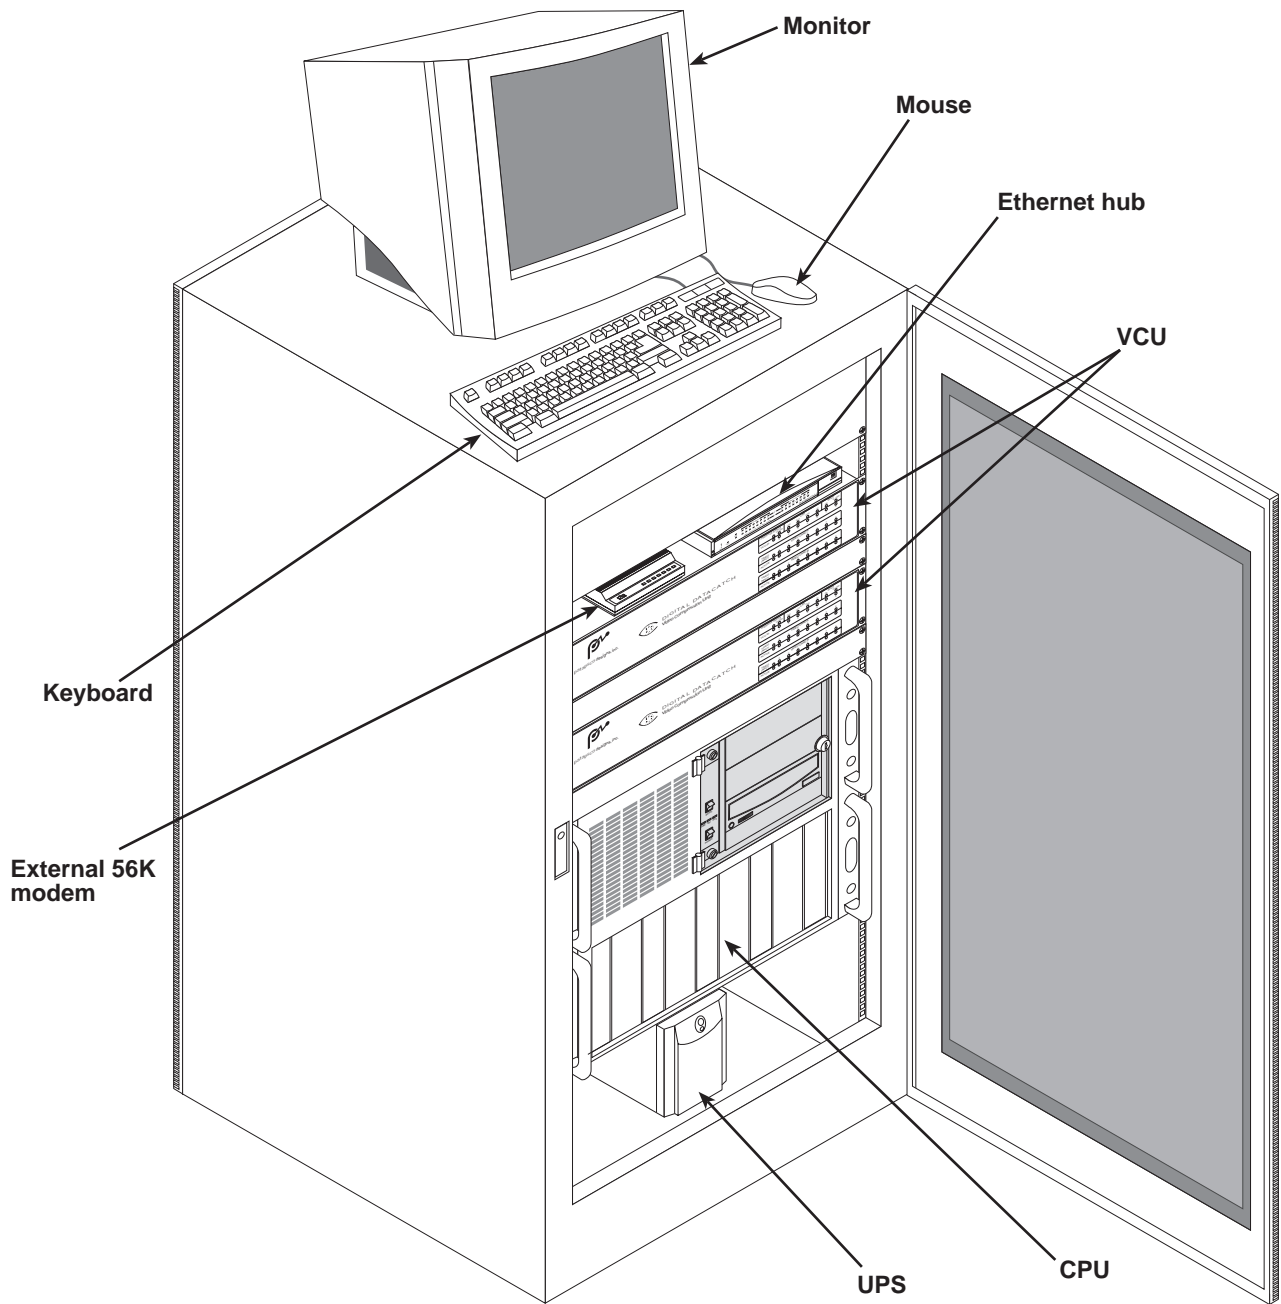

Figure 6. System workstation cabinet
- System workstation (see figure 6 on page 17). The workstation is a high-performance computer comprising a CPU, monitor, keyboard, mouse, and uninterruptible power supply (UPS). The workstation receives the video data from the VCUs and corresponding data from the store computer, multiplexes the video/data signals onto a single line that is then output to the 100-Mbyte mass storage disk drives.